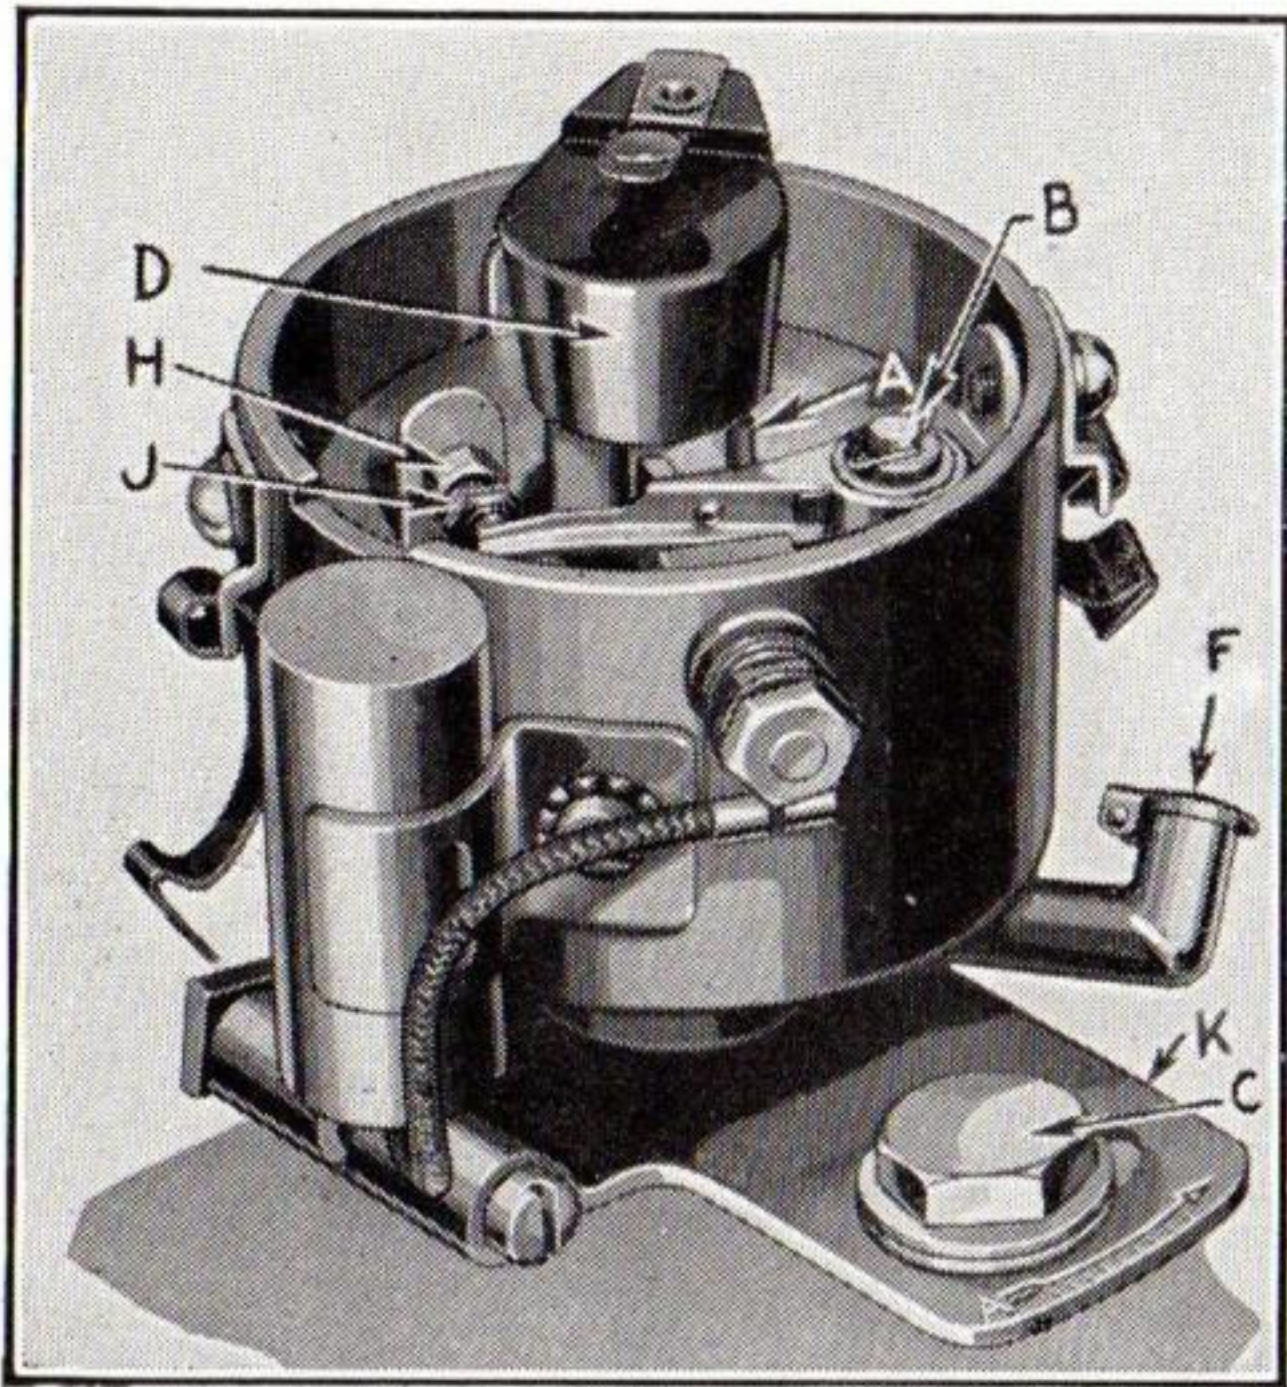
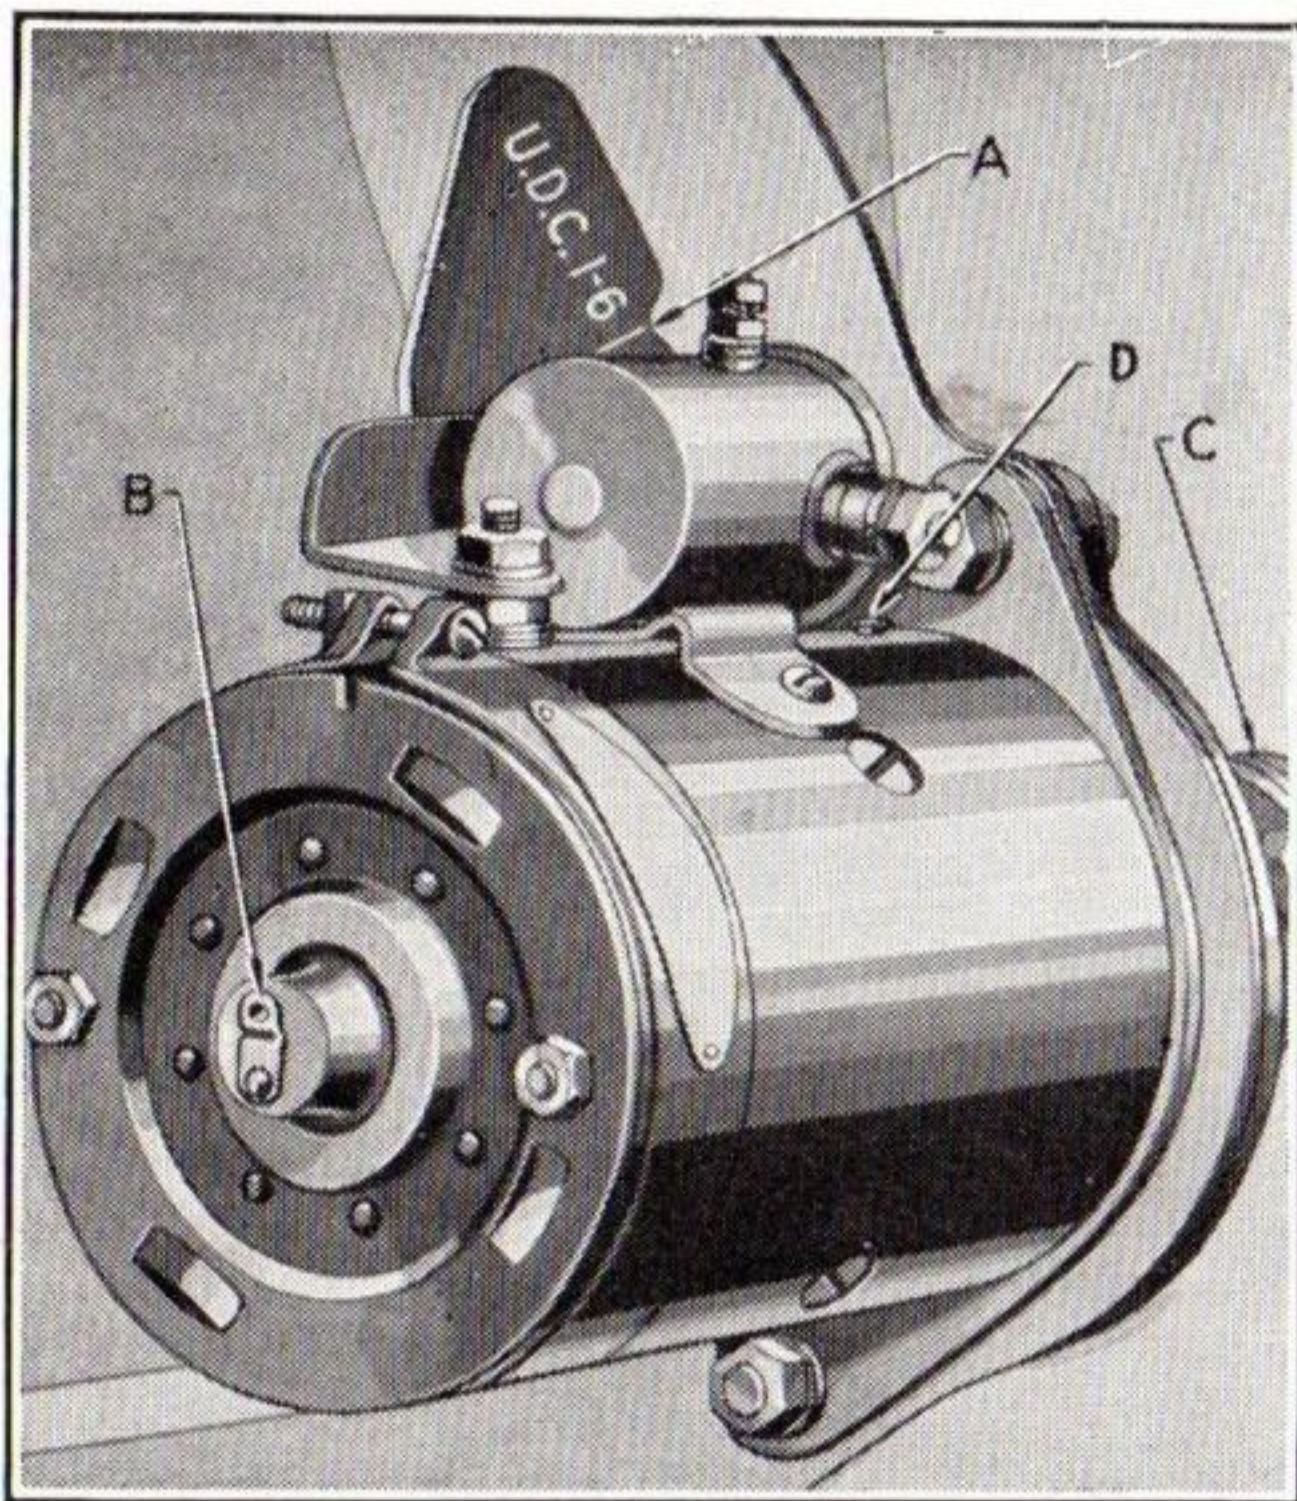

Figure 5
Figure 6
The oil cup (F), Figure 5, should be filled with oil every 2,000 miles. At the same time remove the distributor cap (not shown) and rotor arm (D), placing a few drops of oil on the top of the shaft, one drop of oil on the breaker arm pivot (B), and apply a light coating of vaseline on the cam block (A).
To determine this, remove the spark plug from number one (front) cylinder. Place the finger over the spark plug hole and crank the engine slowly, using the hand crank. Air pressure against the finger indicates that the piston is coming up on the compression stroke. After this is felt, continue cranking the engine slowly until the mark U. D. C. 1 and 6 is directly in line with the pointer on timing inspection hole in the rear support plate of the motor as indicated at (A), Figure 6. The piston is then at U. D. C. and ready to move downward on the power stroke.
Loosen the distributor clamp bolt (C), Figure 5, and turn the distributor housing clockwise to the limit of the slot in the clamping plate (K), Figure 5. Remove the central cable from the distributor cap and place the bare end about $\frac{1}{8}$ " from the intake manifold. With the ignition turned on and the U. D. C. 1-6 mark on the flywheel in line with the pointer on the inspection hole (Figure 6), turn the distributor body counter-clockwise slowly just until a spark jumps from the high tension wire to the intake manifold. Tighten clamp screw (C), Figure 5, replace central cable in distributor cap and clamp cap on distributor.
The foregoing operations give dead center timing. This, however, due to variations in fuel characteristics (octane rating), is only approximately correct. To get the correct setting the car should be driven until the engine has reached its normal operating temperature. Allow the car to slow down to 8 miles per hour in high gear on a level, hard-surfaced road, then depress the accelerator rapidly to its limit of travel. As the car accelerates from 10 to 15 miles per hour a slight spark knock should develop. If a knock is not heard, loosen distributor clamp screw (C), Figure 5, and turn the distributor counter-clockwise one graduation of the clamping plate (K), Figure 5, and repeat the acceleration test. Repeat this operation until the knock is heard. The higher the octane rating of the gasoline being used the greater the advance required to get maximum performance and fuel economy. However, the timing should not be set more than $\frac{3}{4}$ " ahead of the U. D. C. mark on the flywheel.
The front and rear bearings of the starting motor should be lubricated at (B and D), Figure 6, with a few drops of light oil every 1,000 miles. The threads of the Bendix screw shaft (C), Figure 6, should be cleaned occasionally with a brush and kerosene to remove gum and dirt.